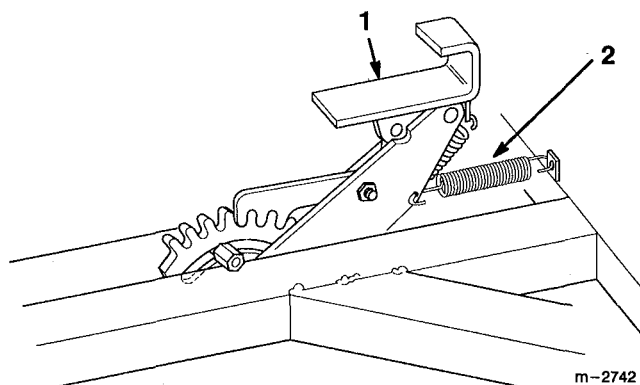

Figure 4
5. Push attachment lift pedal all the way forward, remove pedal spring and move foot pedal all the way back (Fig. 4).
7. Lift up on rear of mower. Select proper hole for height-of-cut and install (2) 3/8"-2-1/4" (57 mm) clevis pins in top holes of rear mower brackets. Secure with (2) hairpin cotters.
8. Push attachment lift pedal all the way forward and instal pedal spring (Fig. 4).